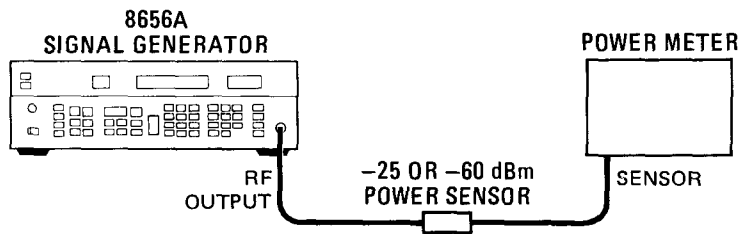

Figure 4-5. High Level Accuracy and Flatness Test Setup
2. Connect the power sensor to the Signal Generator as shown in Figure 4-5.
- 9. Connect the -60 dBm power sensor to the RF OUTPUT of the Signal Generator as shown in Figure 4-5.